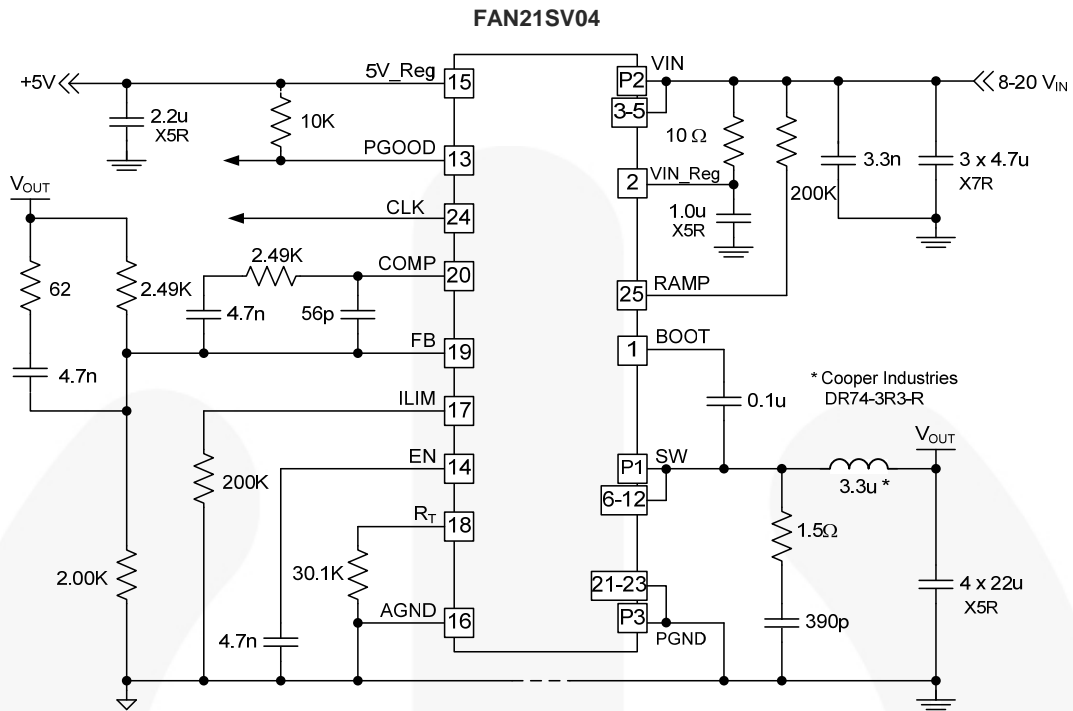
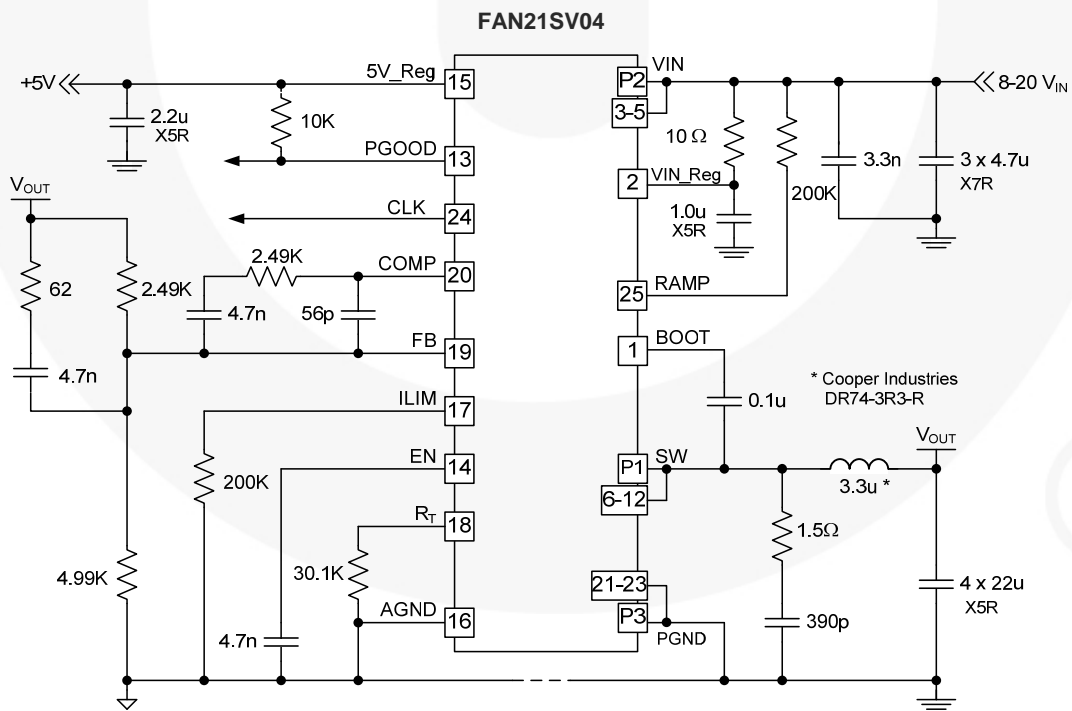

Figure 10. Single-Supply Application Circuit: 1.8 V_{OUT}, 500 KHz, Master, 8 V – 20 V Input
Figure 11. Single-Supply Application Circuit: 1.2 V_{OUT}, 500 KHz, Master 8 V – 20 V Input
Typical operating characteristics using the Figure 10 circuit; $V_{IN}=12\text{ V}$, $V_{CC}=5\text{ V}$, $T_A=25^\circ\text{C}$, unless otherwise specified.
4. Circuit values for this configuration change in Figure 10.
5. Circuit values for this configuration change in Figure 10.
Typical operating characteristics using the Figure 10 circuit. $V_{IN}=12$ V unless otherwise specified.
For applications with $V_{\text{IN}} < 6.5 \text{ V}$, FAN21SV04 can be used if $V_{\text{IN_Reg}}$ is provided with a separate low-power source $>6.5 \text{ V}$. $V_{\text{IN_Reg}}$ supply should come up after V_{IN} during dual-supply operation. The $V_{\text{IN_Reg}}$ pin should always be decoupled with at least a 10Ω resistor and a $1 \mu\text{F}$ ceramic capacitor (see Figure 10, Figure 11).